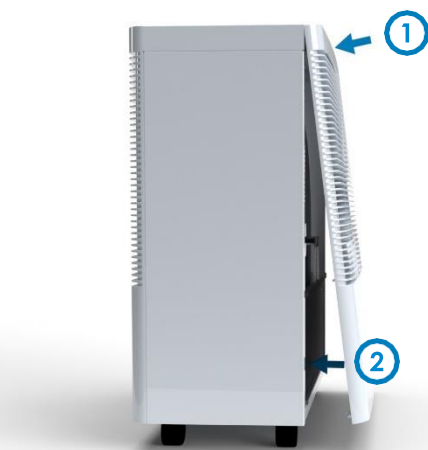

Fig. 4.2.8: Closing the outlet grille
7. Close the outlet grille (☞ see "Fig. 4.2.8" on page 19).
11. Hook the outlet grille into the holder at the top of the unit (Fig. 4.2.8/1).
12. Close the outlet grille (Fig. 4.2.8/2). The magnets keep the unit housing closed.